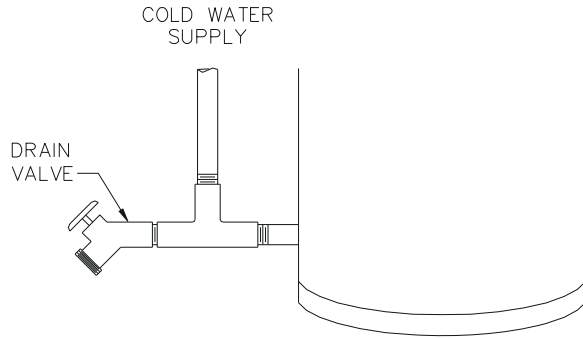

Figure 1: Water Inlet
a. **Cold Water In.** Install brass tee and drain valve (not provided). Install shutoff valve between water supply and cold water inlet for ease of service. See Figure 1.